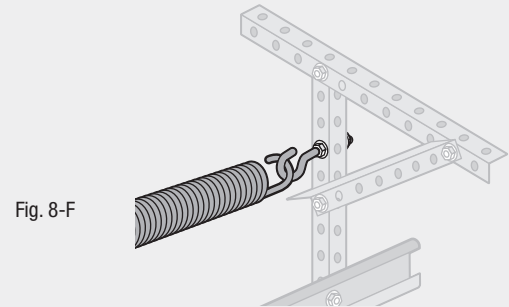

Fig. 8-F
- Using the cable attached to bottom bracket, thread cable up over the stationary sheave (Fig. 8-G).
- Continue to thread cable over and around sheave on the springs (Fig. 8-H).